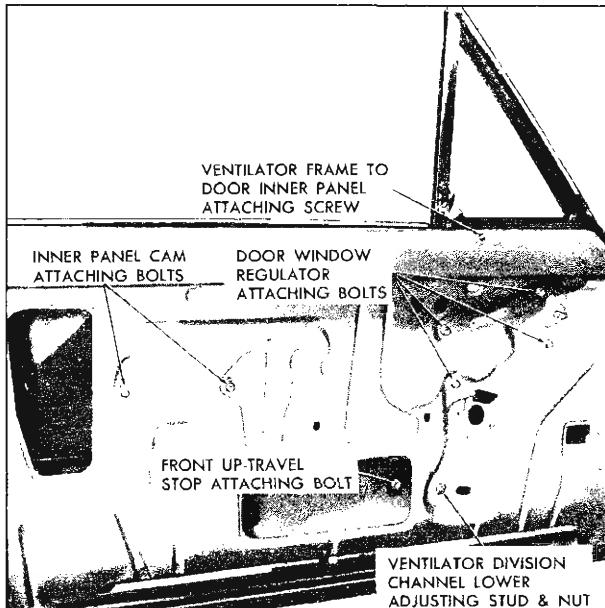

Fig. 12-23 Front Door Inner Panel
2. Remove ventilator division channel lower adjusting stud and nut (Fig. 12-23).
4. Remove ventilator frame to door inner panel attaching screw (Fig. 12-23).
2. Lower door window and remove front up-travel stop (Fig. 12-23).